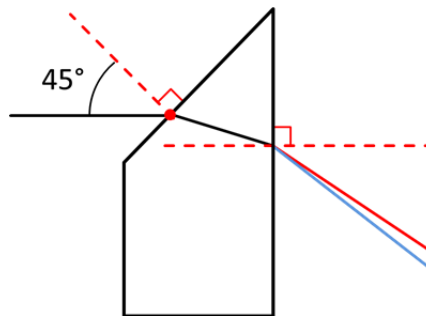

Figure 6: Dispersion Lines
6. Finally, use the protractor to draw a line normal to the dispersion interface at the point from which the light ray exited, that bisects the dispersion interface, as in Figure 6.